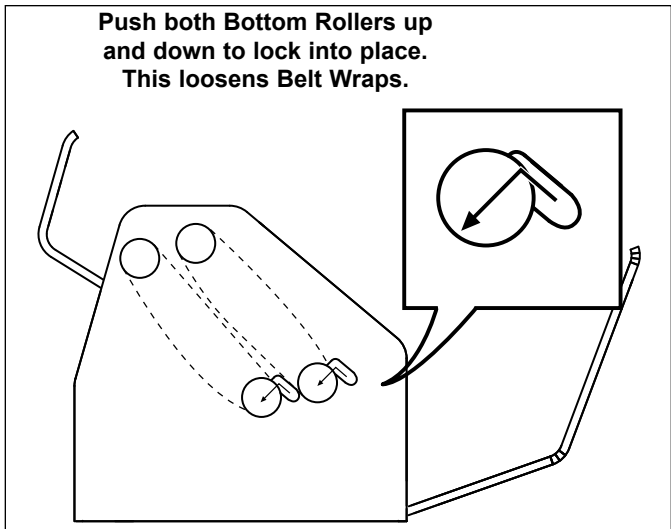

Figure 10. Loosening Belt Wraps
6. Refer to Figure 10. Push up and then drop down both of the front and rear bottom rollers until they lock into place. This will remove the tension on both Belt Wraps.
2. Ensure that both lower rollers are locked in the upper position (Figure 10).